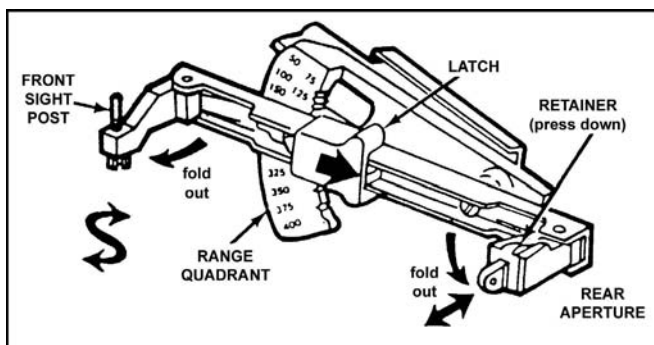

Figure 071-311-2130-5. Quadrant sight
(1) Turn the windage adjustment screw clockwise to adjust for wind from the left.
(2) Turn the windage adjustment screw counterclockwise to adjust for wind from the right.
10. Adjust the quadrant sight if necessary (figure 071-311-2130-5).